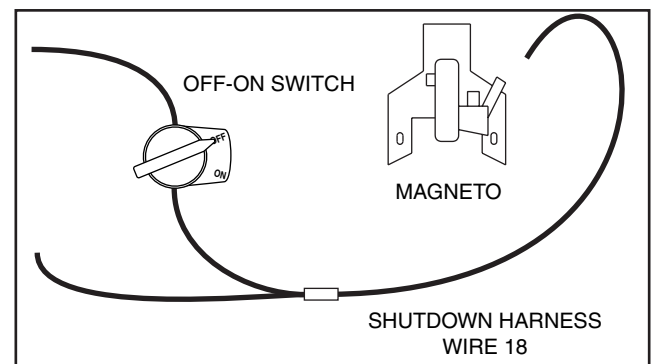

Figure 18. Shutdown Lead (389cc Engine)
**Note: The shutdown lead on units with the 389cc engine will not be identified as Wire 18. Refer to Figure 18 for identification of location.**